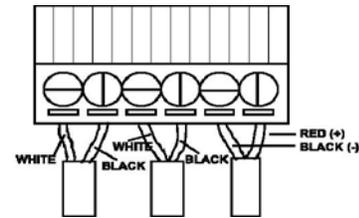

Figure 7-1. Cable Connections
3. Install the wires into the green indicator connector and snugly tighten each terminal. See Figure 7-1.